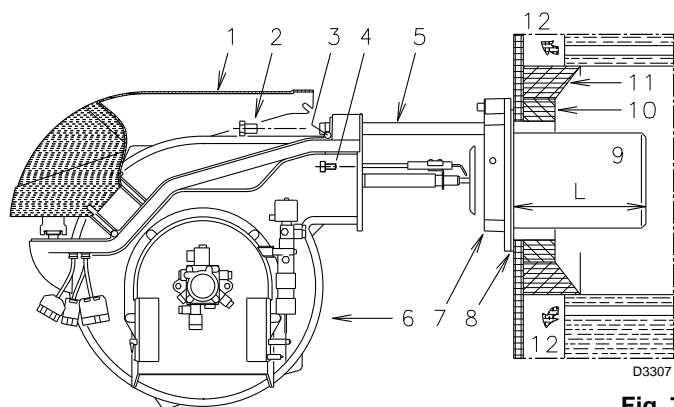

Fig. 7
4.4 Blast tube length (Fig. 7)
For boilers having a water-cooled front the refractory fettling 10)-11) (Fig. 7) is not required unless it is expressly requested by the boiler manufacturer.
Once this operation has been carried out (if it was required), secure flange 7) (Fig. 7) to the boiler plate interposing the supplied gasket 8). Use the 4 screws provided after having protected the thread with anti-seize products (high-temperature grease, compounds, graphite).
- Retract the burner on its slide bars as shown in (Fig. 7 pag. 10).